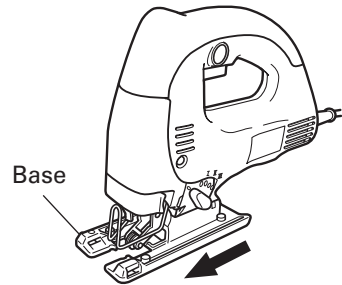

Fig. 12
- (2) Move the base fully forward (Fig. 12), and tighten the base bolt again.